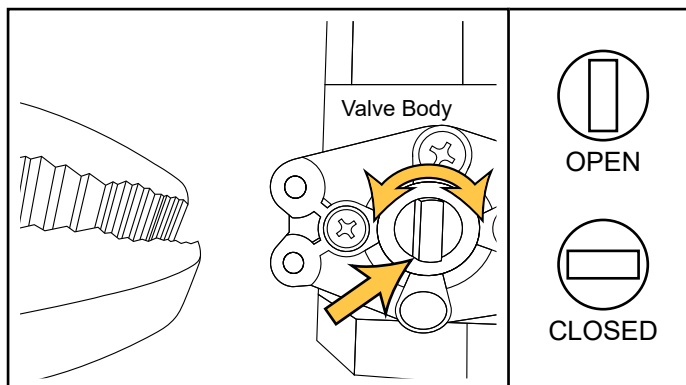

Fig. 5 - Turn valve body key with pliers
3. Using pliers, turn valve body key to adjust valve (see Fig. 5).